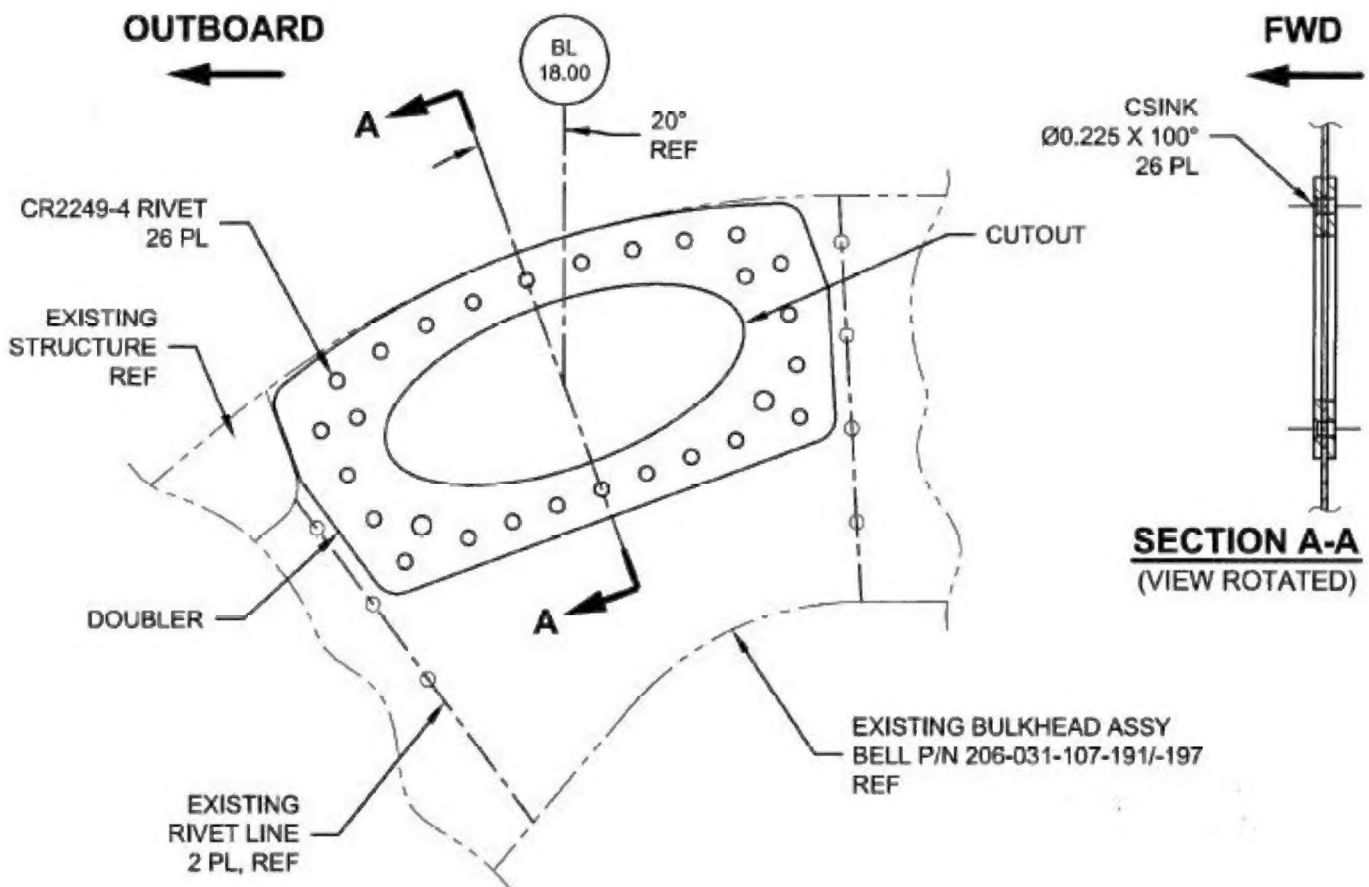

FIGURE 1 - VIEW LOOKING AFT
TO MAKE THE DART D206-746-011 KIT COMPATIBLE WITH SOME BELL 206A/B AIRCRAFT, IT MAY BE NECESSARY TO CUTOUT AND REINFORCE THE BULKHEAD AT STA 121.19, LBL AND RBL 18.00 PER FIGURE 1. THIS CHANGE IS REQUIRED ON AIRCRAFT S/N 3568 AND SUBSEQUENT TO ENSURE THAT THE D206-746-041 REAR PASSENGER OVERHEAD MODIFICATION KIT CAN BE INSTALLED PER IIN-D206-746.
- 1) MAKE DOUBLERS PER FIGURE 2 OF THESE INSTRUCTIONS. COUNTERSINK Ø0.144" HOLES ON ONE DOUBLER ONLY WHICH WILL BE INSTALLED ON THE FORWARD FACE OF THE BULKHEAD PER FIGURE 1.
- 2) LOCATE DOUBLERS PER FIGURE 1 OF THESE INSTRUCTIONS.
- 5) INSTALL THE DOUBLERS AS SHOWN IN FIGURE 1 OF THESE INSTRUCTIONS. APPLY A LAYER OF PROSEAL 890 OR MIL-S-8802 CLASS 'B2' SEALANT BETWEEN DOUBLERS AND AIRCRAFT SKIN.